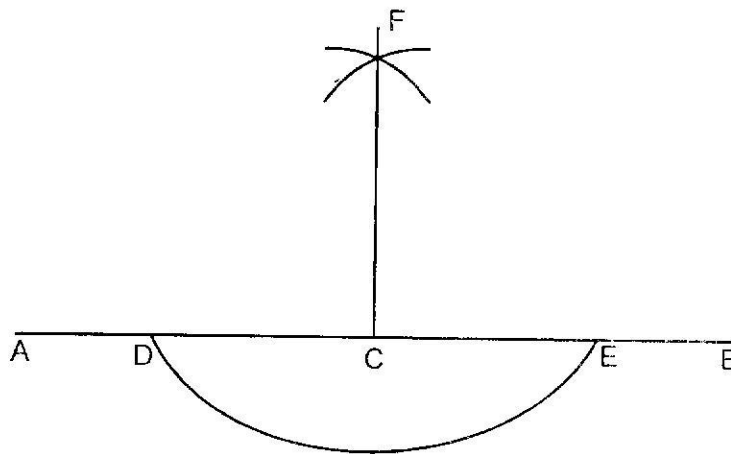

Fig 4.7
**To Construct a perpendicular at a given point on a straight line (Fig 4.7)**